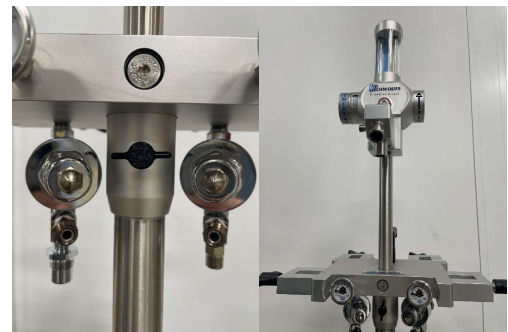

Figure 6. Flowmeter Height Adjustment
- 1) Loosen star knob by turning counter clockwise. (See Figure 6)